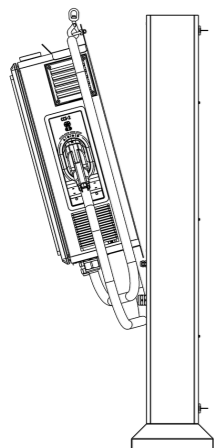

Figure 4.9: Attachment example
2. Bring the station closer to the totem and align the holes on the rear face with the holes in the structure. The movement of the WEMOB-STATION can be done using the lifting eye, as shown in Figure 4.9.